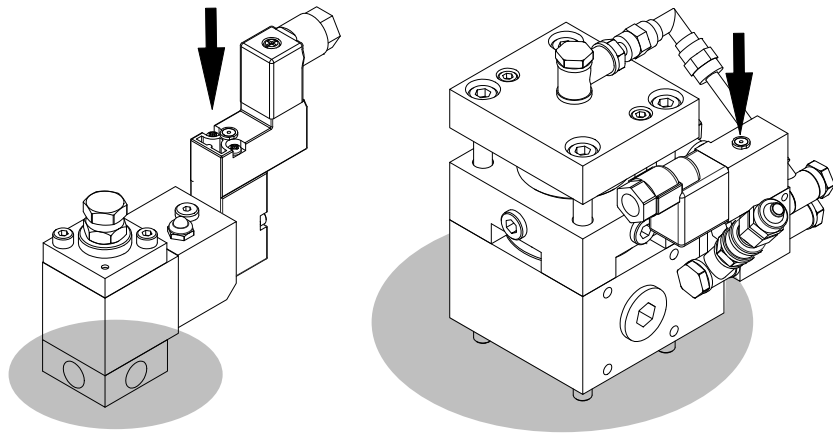

Fig. 3-3
- On an applicator with solenoid valves, activate the solenoid valves electrically or manually (Refer to Figure 3-3). Do not use sharp objects! Repeat until no more material flows out.